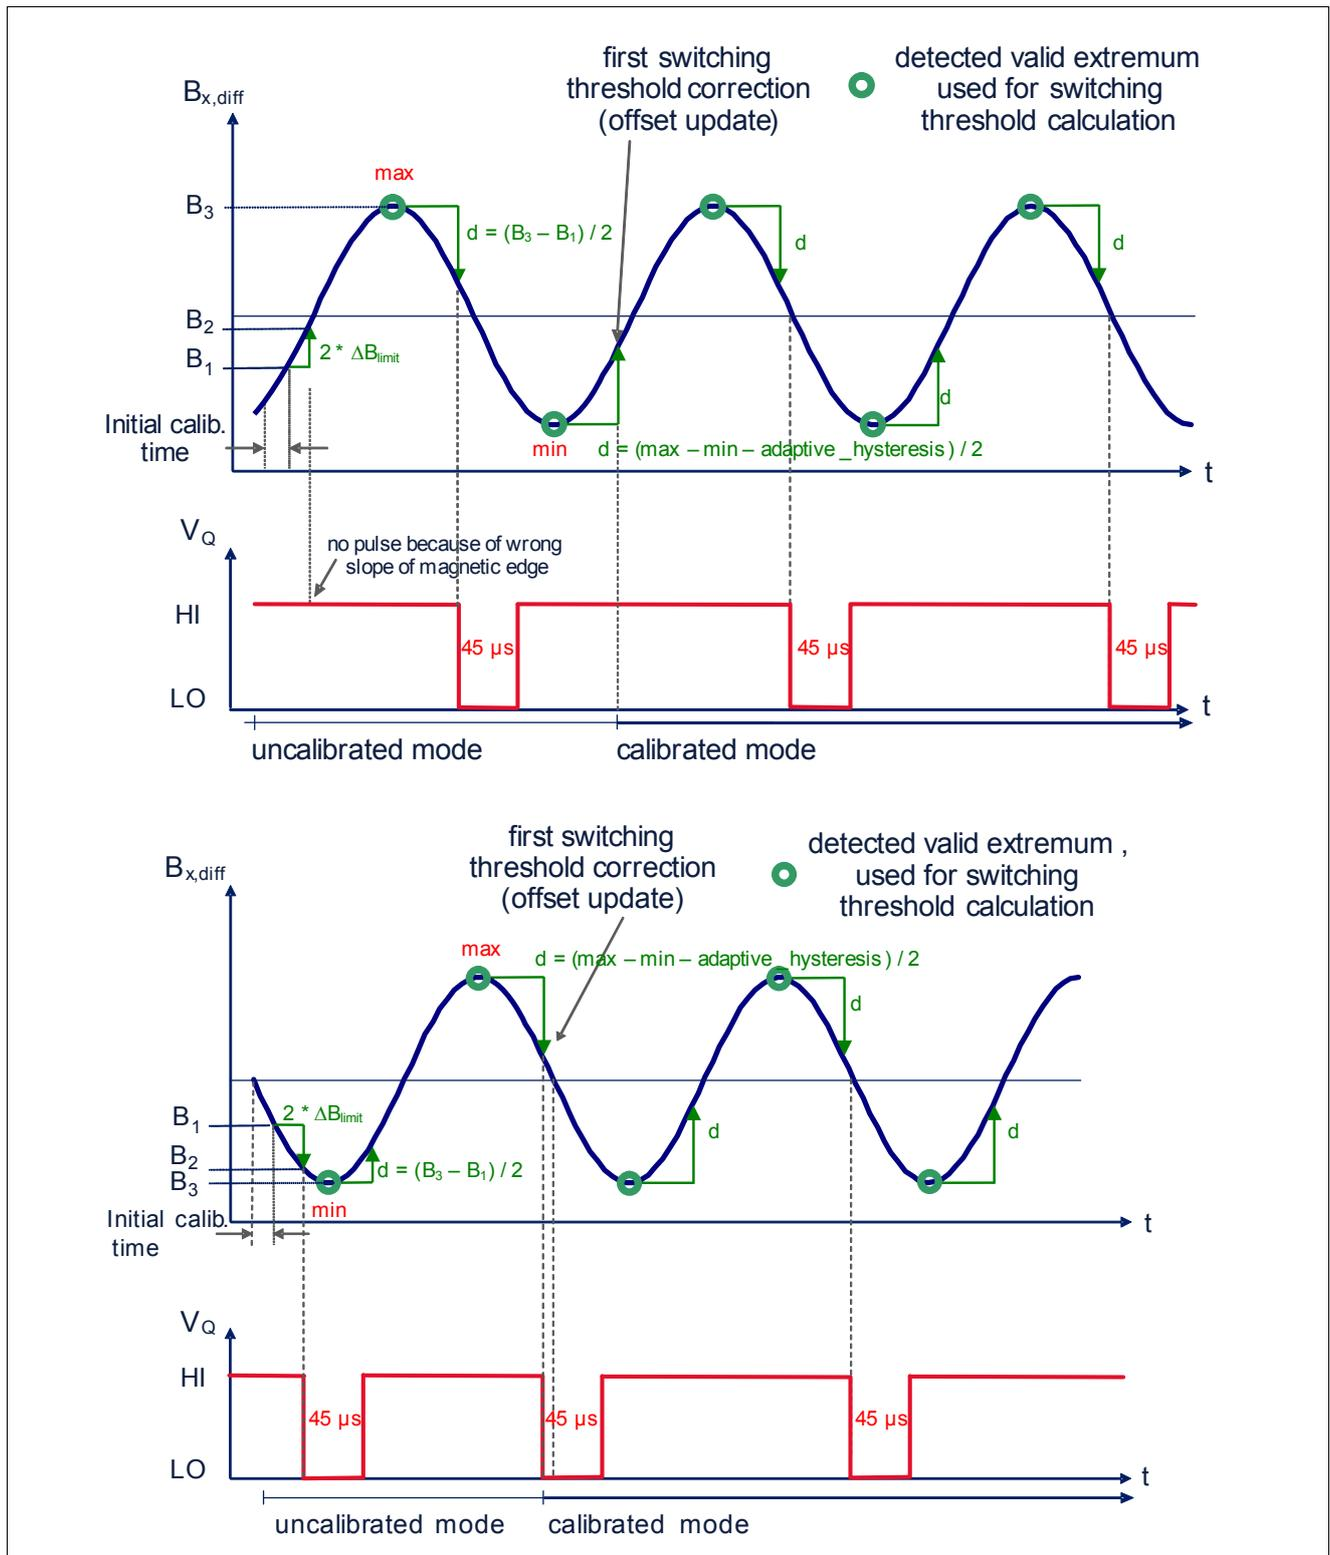

Figure 5 Operating Phases - Power-on to Running Phase
- Initial phase (**Figure 5** "uncalibrated mode")
- Calibration phase 1 (**Figure 5** "calibrated mode")